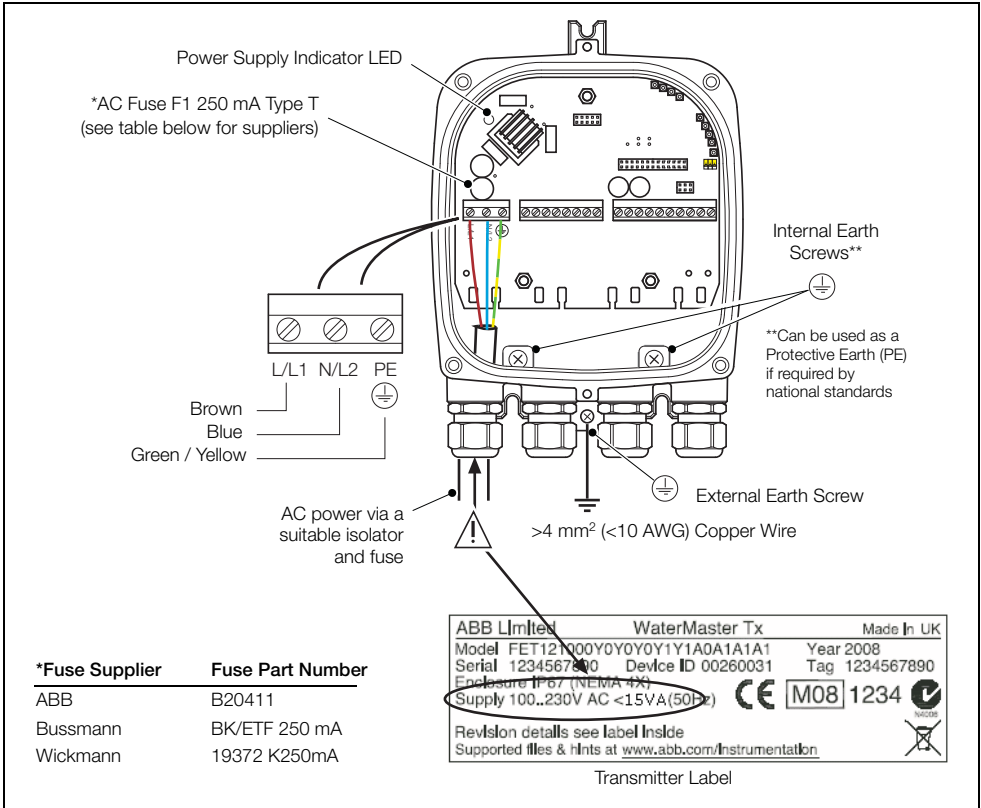

Fig. 4.18 AC Power Supply Connections
- Replace fuses with the correct part, see Fig 4.18 (AC power) and 4.19, page 27 (DC power).